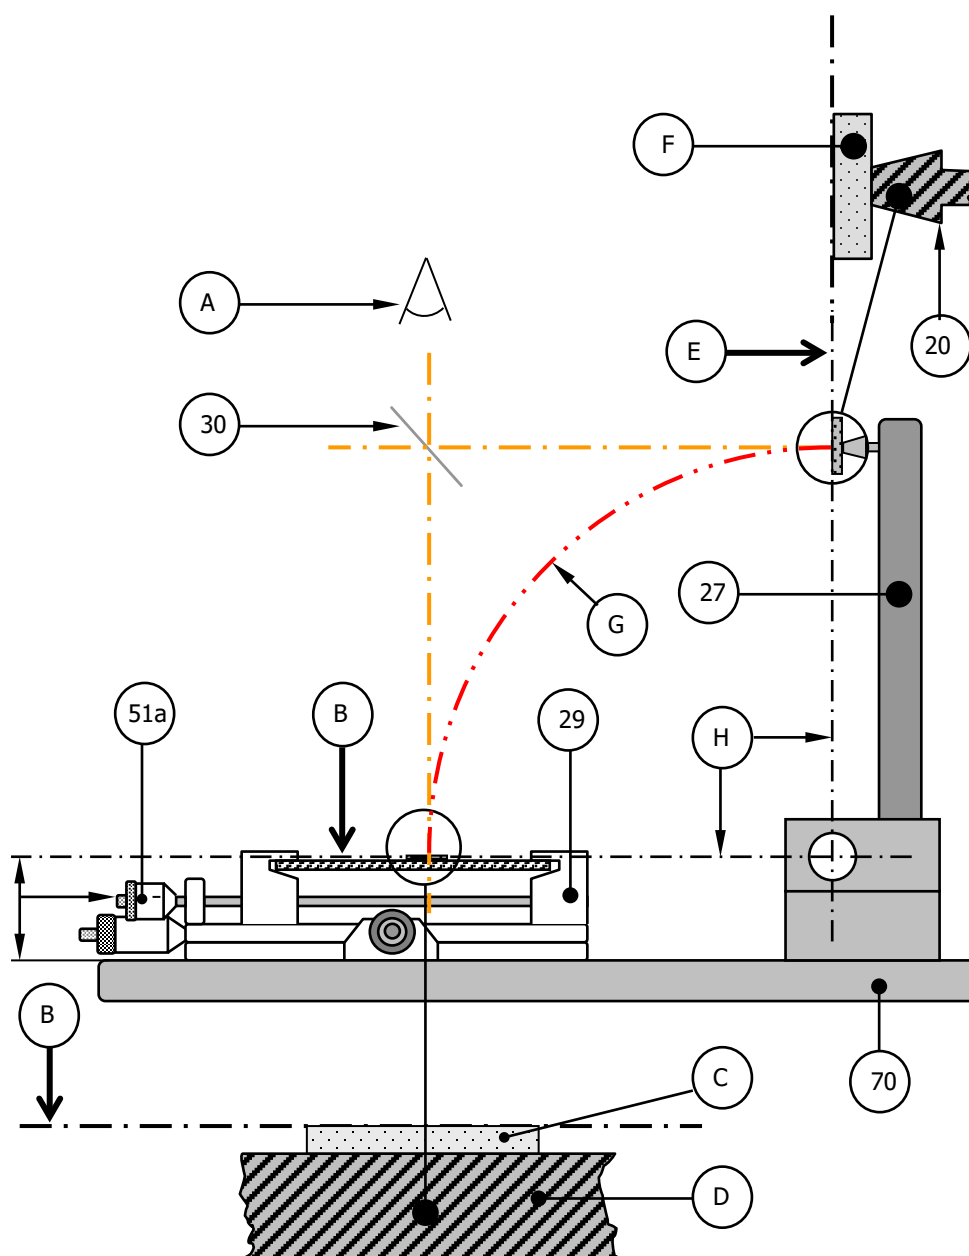

Fig. 1: Operating principle of A6/A7 (sketch of the lateral view, right hand side)
The patented advanced Vision Alignment System of the lambda is based on the principle of imaging two orthogonal images simultaneously into one common image plane, using a stationary beam splitter (30) and a single beam deflection (see fig. 1):
The configuration shown in fig. 1 allows orthogonal view of the objects component (F) and substrate (C), so both are seen to be observed "vertically from above" (A). The overlay image allows a comparison of all connectors on each component lead with each substrate pad at a glance.